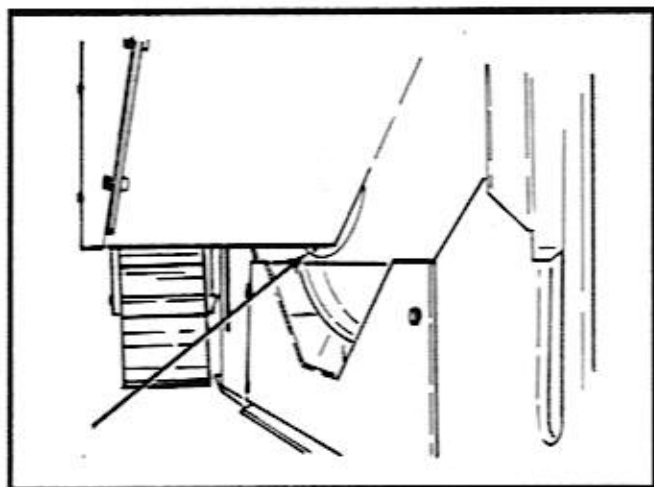

Figure 8-17. Cutter Drum Planetary Seal Excluder
On the cutter drum drive side (left side of the machine), the one (1) grease fitting is to be lubricated with six (6) shots of MPG-EP grease. The fitting is visible from the bottom of the cutter drum area. The drum should be rotated by hand while the seal excluder is being lubricated. Refer to Figure 8-17. The MT-7000E does not have a seal excluder.